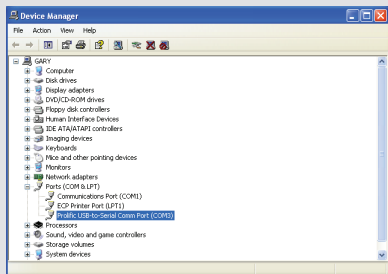

Figure 5.4
3. The Device Manager List will open. Click on Ports (COM & LPT). Look for Prolific USB-to-Serial Comm Port in the sub-list (See Figure 5.4).